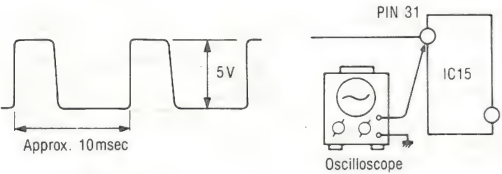

Fig. 21
2. Connect an oscilloscope to pin 31 of IC15, as shown in Fig. 21.